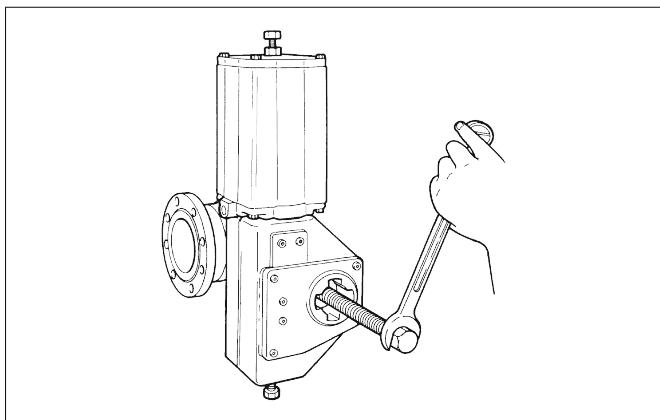

Fig. 45 Detaching an B series actuator
- Detach the actuator using a suitable extractor, see Fig. 45. The tool can be ordered from the manufacturer.